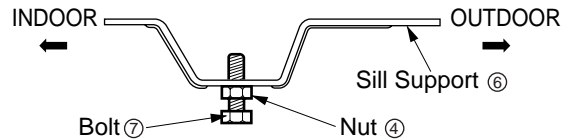

Fig. 3
3. Cut the window sash seal to the proper length. Peel off the backing and attach the Foam-PE to the underside of the window sash. (Fig.3)
3. Loosely assemble the Sill Support® using the parts . (Fig. 3)